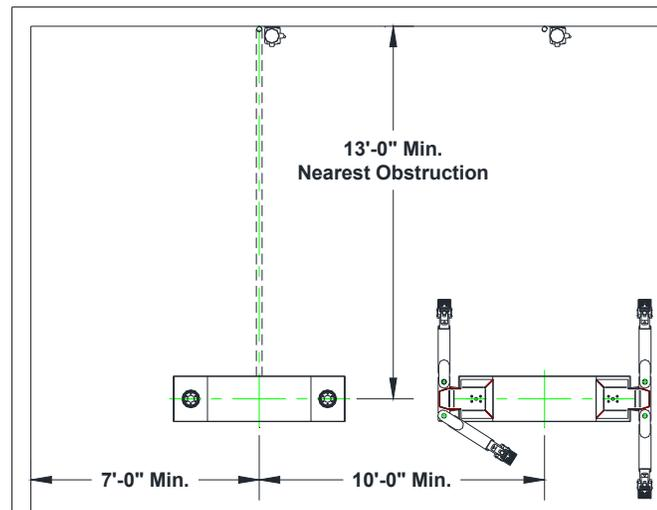

Fig. 1
Locate lift to allow plenty of working room on all sides. Allow room for workbenches at front of bay, aisles, lubrication equipment or other obstructions. Check overhead clearances. Ordinarily 12 feet is ample for automobiles. Observe the recommended minimums in Fig 1.
2. Using a chain hoist and tripod, forklift, crane, etc. for lifting; lower the lift / containment assembly in the excavation being sure the PVC inlet hole is toward the power unit, until the top of the assembly is 1/8" to 1/4" above finished floor level and aligned with the previously determined center lines. Refer to **Figures 1** and **3**.
Be sure the adapters are in the lowered position and the arms are parked as seen in **Fig. 1** before attempting to drive on or off of the lift. Failure to do so may damage the adapters or vehicle.